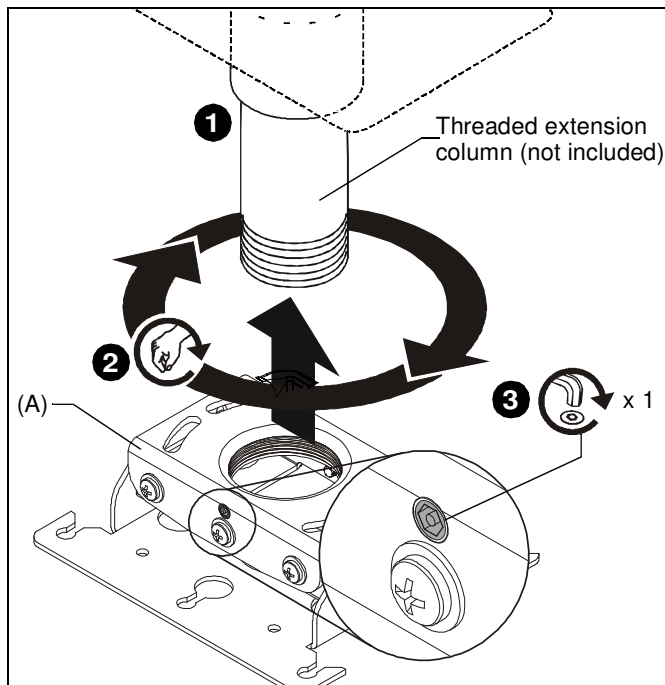

Figure 3
1. Install 1-1/2" NPT or NPSM steel or aluminum threaded extension column (not included) into threaded collar until tight, with a minimum of four threads engaged. (See Figure 3)
2. Thread RPE projector mount (A) onto the threaded extension column (not included) until hand tight, with a minimum of four threads engaged. (See Figure 3)
3. Turn RPE clockwise or counter-clockwise until front of mount is facing target. (See Figure 3)
4. Secure RPE to pipe by turning set screw until tight. (See Figure 3)